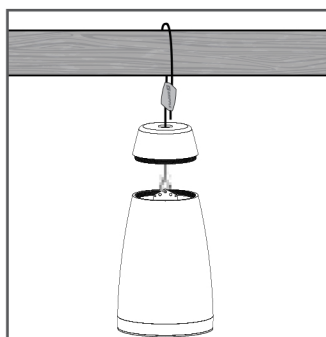

FIGURE 7: MAIN SUPPORT
4. With speaker supported, snap main support hook hanger onto the center hole in the top bracket of the speaker. Adjust to proper height by pulling cable through either end of Gripper. (See figure 7).